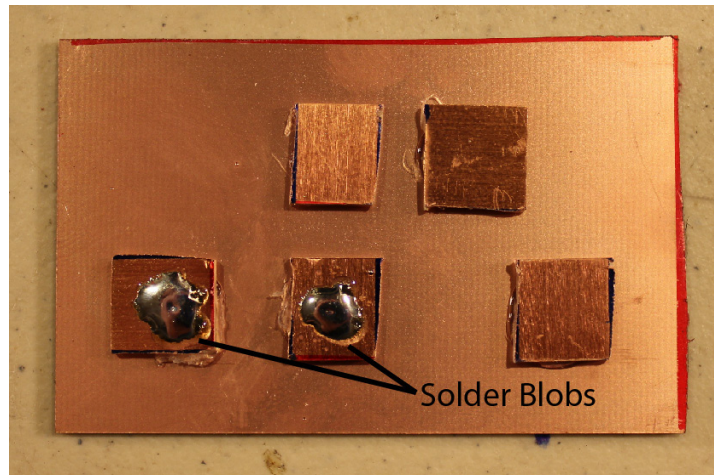

Figure 3
- Melt a blob of solder onto the two bottom left squares. (See figure 3) To do this, apply your iron to each square to transfer heat for an extended period of time until the solder flows onto the surface.